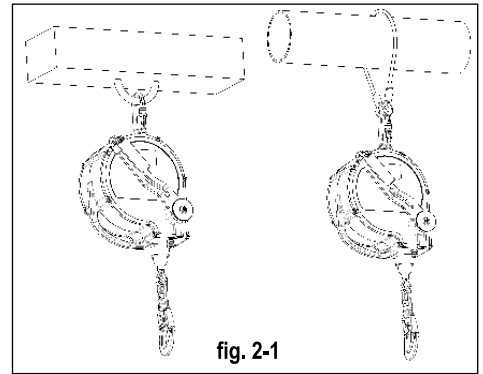

fig. 2-1
**Anchor device or anchor point** should always be positioned, and the work carried out in such a way as to minimise both the potential fall and potential fall distance. The structural anchor point should be placed above the user's position, should have stable structure and its shape shall not allow to self-acting disconnection. The minimal strength of the structural anchor point should be not less than 12kN. It is recommended to use certified and marked structural anchor point or device, conform to EN795 standard. Connecting the fall arrester to a structural anchor point should be done by joining the arrester handle to a structure with the aid of a connector or sling complying with EN362 or EN795 standards (fig.2-1).
The CRW200 may be attached to a stable structural element of minimal strength not less 12kN. The device connection to the structural anchor should be done with the aid of a connector or sling complying with EN362 or EN795 standards (fig.2-1). The CRW200 may be attached to a tripod's head (suspended in vertical orientation) or installed on tripod's leg. [see UTILIZATION WITH A TRIPOD]